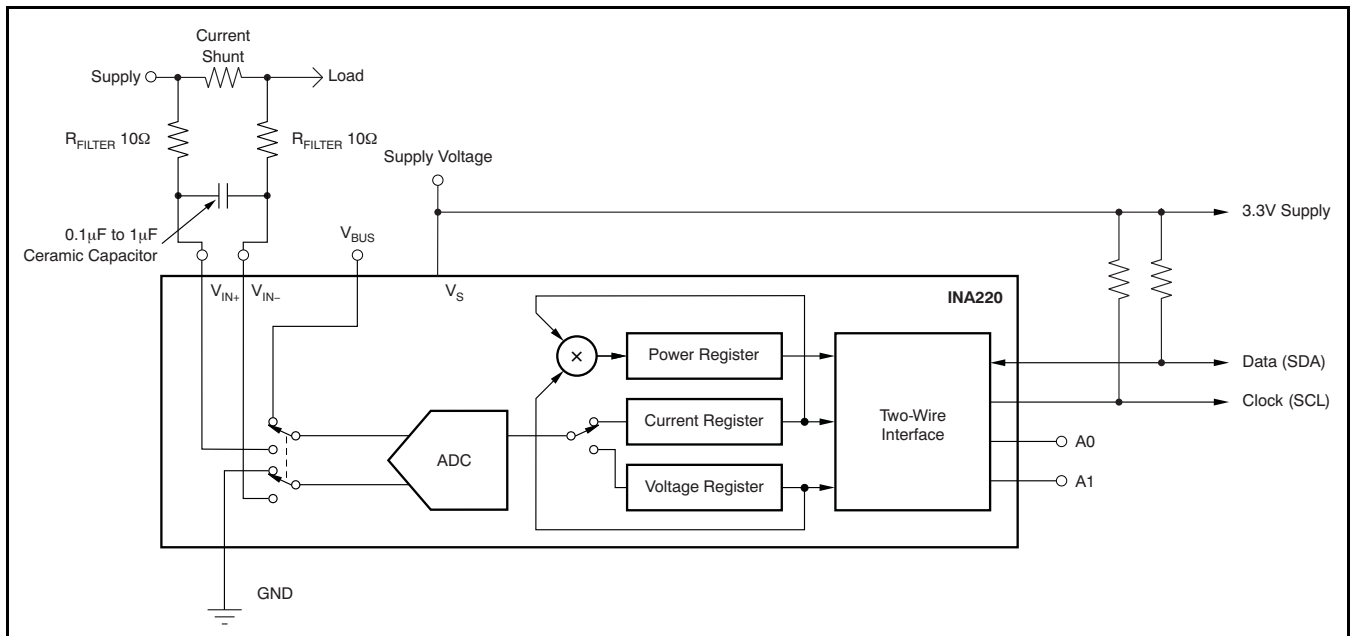

Figure 19. INA220 with Input Filtering
(2) Read data is from the last register pointer location. If a new register is desired, the register pointer must be updated. See Figure 19.
(3) ACK by Master can also be sent.
sampling rate (>1MHz). Filter using the lowest possible series resistance and ceramic capacitor. Recommended values are 0.1µF to 1.0µF. Figure 19 shows the INA220 with an additional filter added at the input.